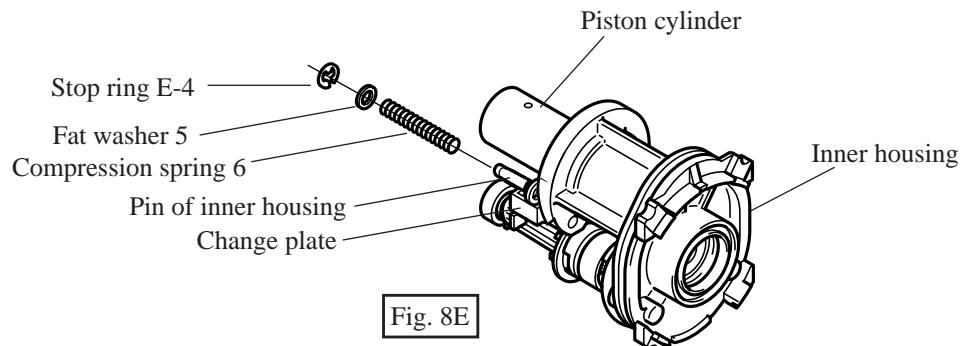

Fig. 8E
3. Disassemble stop ring E-4, flat washer 5 and compression spring 6 with which change plate is fixed, from the pin of inner housing as illustrated in Fig. 8E.